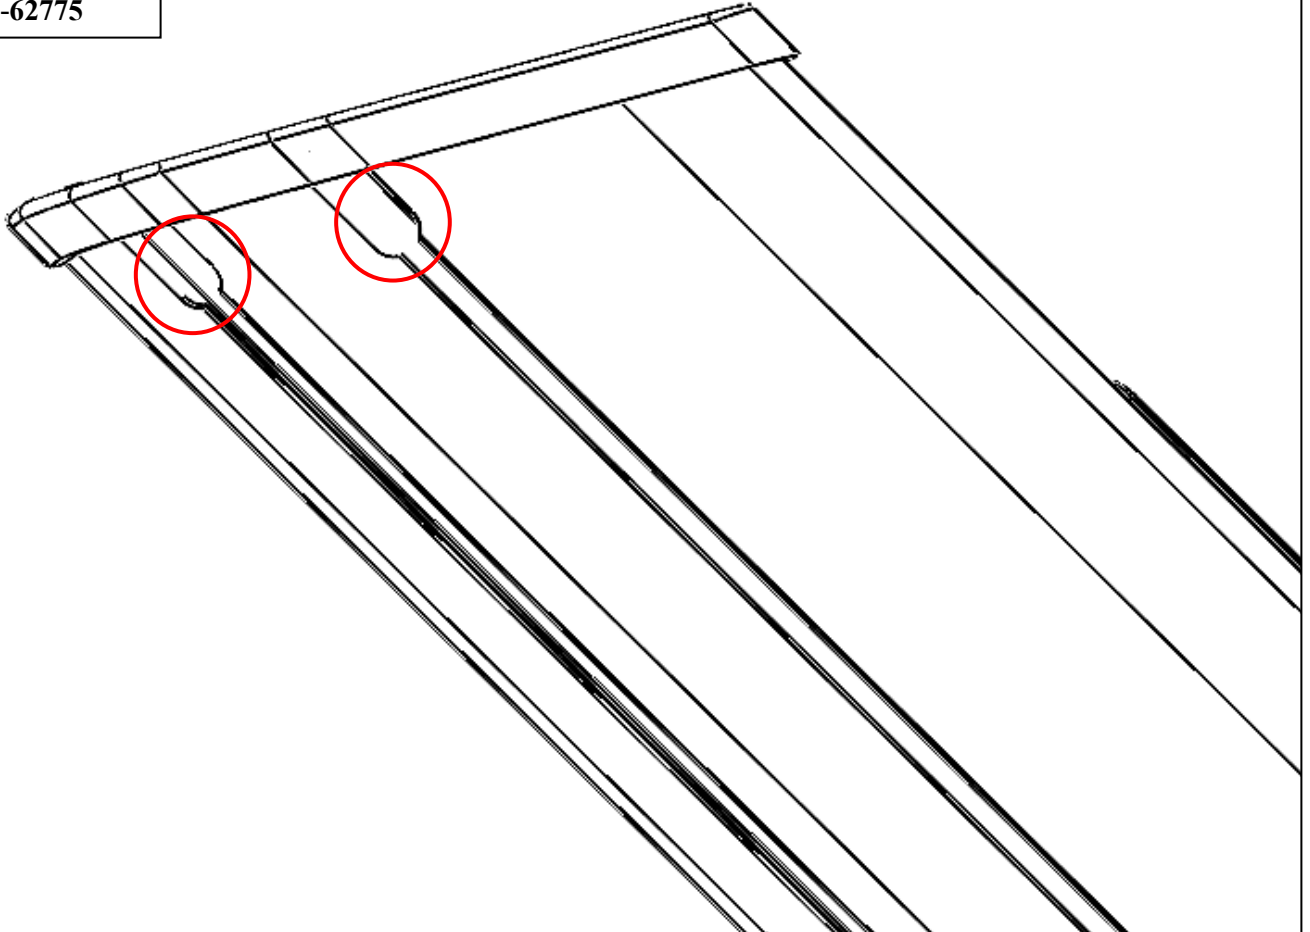

Figure 6
4. Slide (3*) M8 square head screws (Item 16) into each of the rails underneath the running board. **See Fig. 6.**